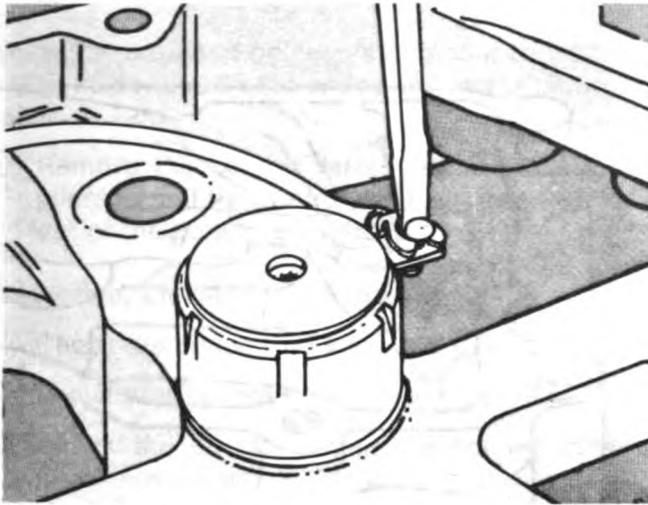

Fig. 20-10. Install The Electrical Wiring To The Solenoid Valve.
6. install the electrical wiring onto the solenoid in the Jacobs Brake units, Fig. 20-10. Connect the other end of the wiring to the inside terminal of the leadout assembly in the brake housing.